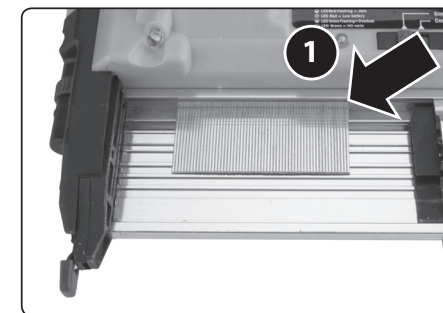
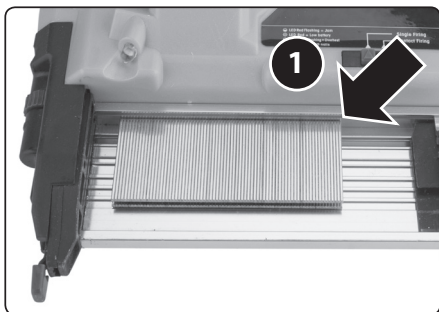

Fig. 2A, location of nail strip in the magazine
Fig. 3A, location of staple strip in the magazine
- Insert the nail or staple strip into the magazine so that the heads of the nail strip or staple strip arc are in tight contact with the top part of the magazine, see image in fig. 2A (inserting a nail strip) or fig. 3A (inserting a staple strip).